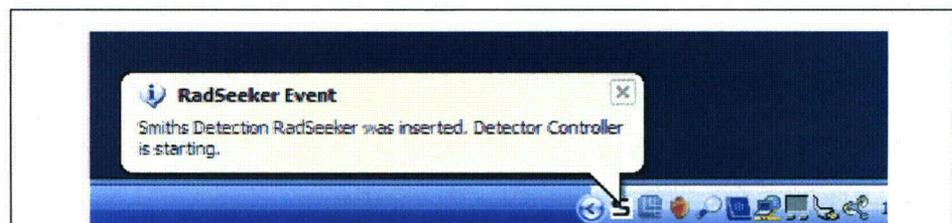

Figure 3-32 RadSeeker DL Connection Notification in System Tray
3. Connection Manager detects the RadSeeker DL connected to the PC USB port and starts the Detector Controller application (Figure 3-32).